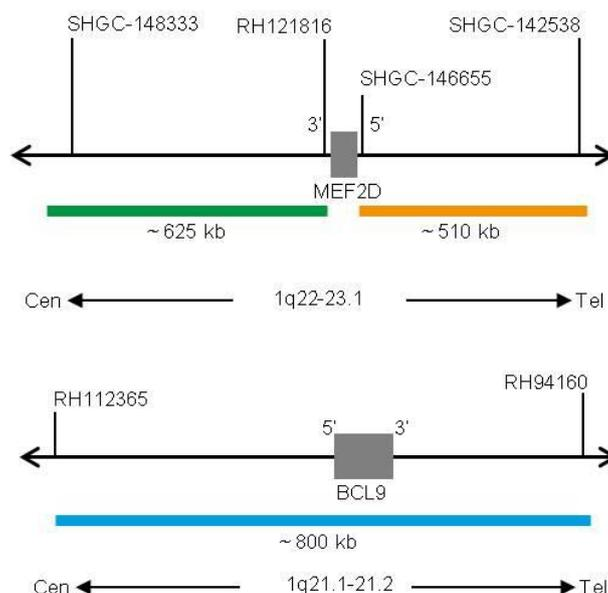

Fig. 1: Top: SPEC MEF2D Probe map; Bottom: SPEC BCL9 Probe map (not to scale)
- ZyGreen (excitation 503 nm/emission 528 nm) labeled polynucleotides (~10.0 ng/μl), which target sequences mapping in 1q22* (chr1:155,796,564-156,422,930) proximal to the MEF2D breakpoint region (see Fig. 1).
- ZyOrange (excitation 547 nm/emission at 572 nm) labeled polynucleotides (~4.5 ng/μl), which target sequences mapping in 1q22-q23.1* (chr1:156,493,162-157,000,653) distal to the MEF2D breakpoint region (see Fig. 1).
- ZyBlue (excitation 418 nm/emission at 467 nm) labeled polynucleotides (~37.0 ng/μl), which target sequences mapping in 1q21.1-q21.2* (chr1:146,595,373-147,392,972) harbouring the BCL9 gene (see Fig. 1).